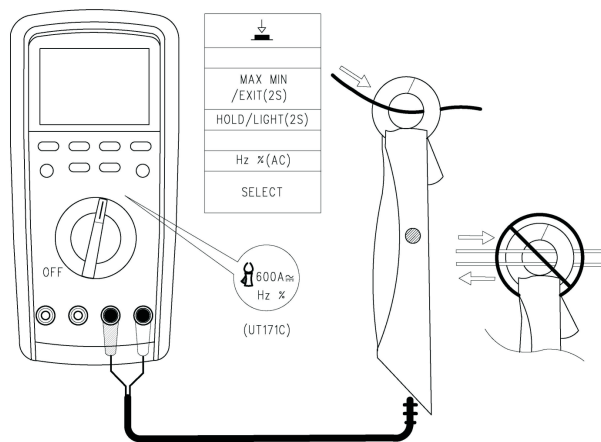

Figure 11
9. 60A/600A ACA/DCA External input current calipers measurement (see Figure 11)